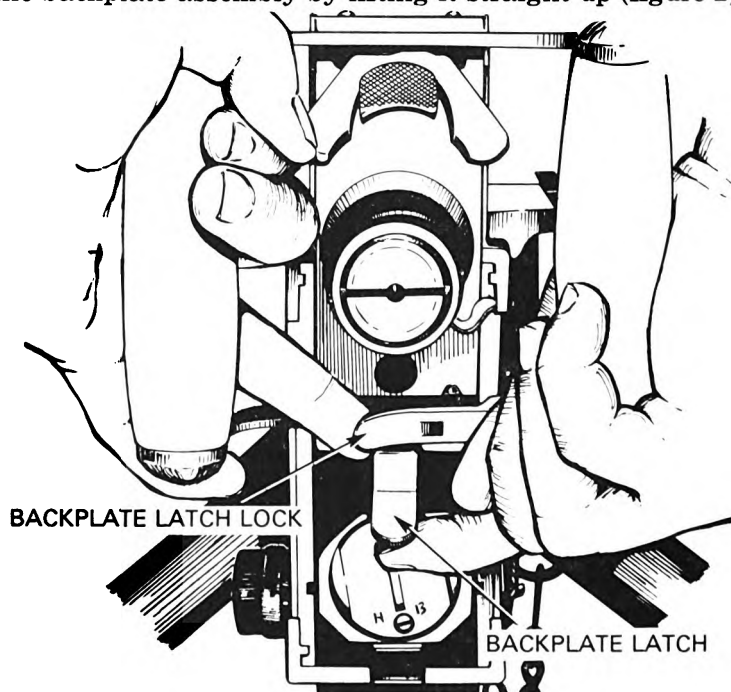

Figure 2.
c. **Backplate Assembly.** To remove the backplate assembly, insure that the bolt latch release is up. If it is not, push down on the bolt latch release and turn the buffer tube sleeve clockwise until the bolt latch releases. The bolt must be forward before the backplate assembly is removed. If the bolt is to the rear, push down on the bolt latch release and let the bolt ride forward by holding the retracting slide handle. The backplate latch and the latch lock are below the buffer tube. Pull out on the latch lock and up on the latch; remove the backplate assembly by lifting it straight up (figure 2).